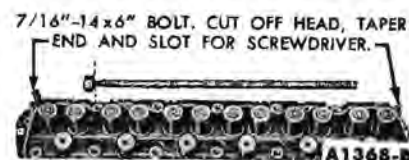

FIG. 19—Cylinder Head Guide Studs
1. Clean the head and block gasket surfaces. If the cylinder head was removed for a gasket change, check the flatness of the cylinder head and block. Install guide studs at each end of the cylinder block (Fig. 19).